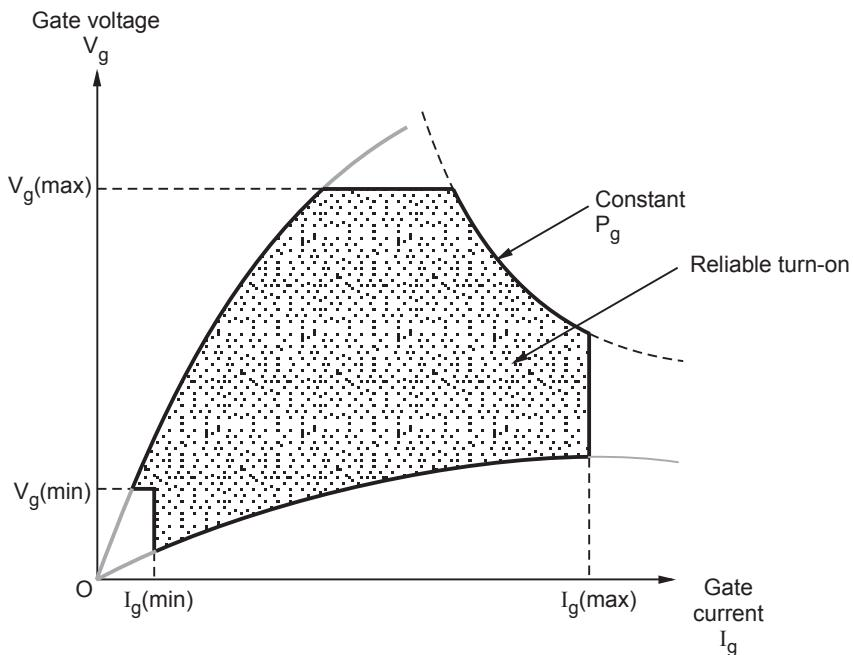

Fig. 1.9.1 Gate trigger characteristics
In the previous section we studied V-I characteristics of SCR. Now we will have a closer look towards gate characteristics of the SCR. Fig. 1.9.1 shows the gate trigger characteristics.
The characteristic of Fig. 1.9.1 also shows the curve for constant gate power (P_g). Thus for reliable turn-on, the (v_g, i_g) point must lie in the shaded area in Fig. 1.9.1. It turns-on SCR successfully. Note that any spurious voltage/current spikes at the gate must be less than $v_g(\min)$ and $I_g(\min)$ to avoid false triggering of the SCR. The gate characteristics shown in Fig. 1.9.1 are for DC values of gate voltage and current.
- (ii) The gate voltage and current should be within the limits specified by gate characteristics (Fig. 1.9.1) for successful turn-on.